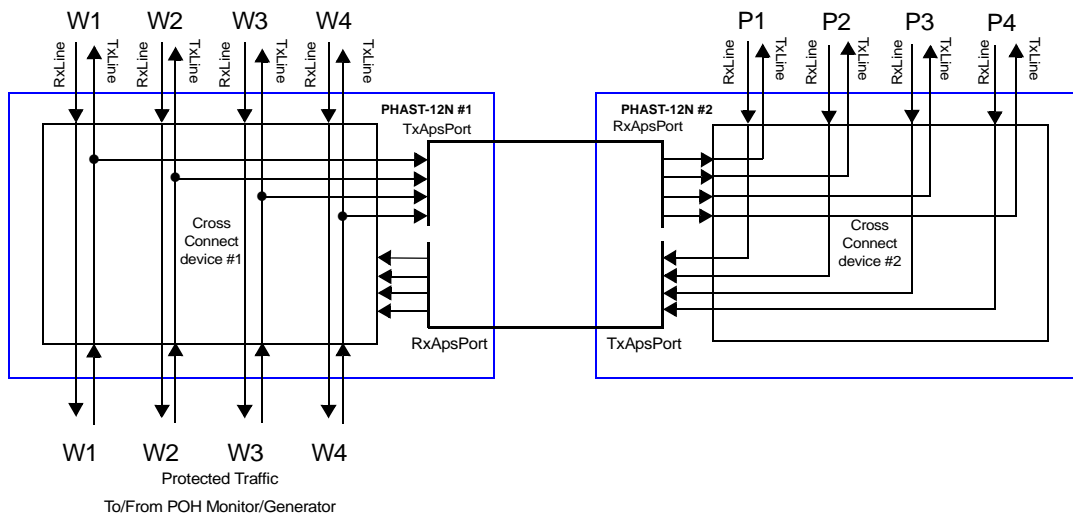

Figure 32. STM-1/OC-3, 1+1 APS Idle State
Figure 32 shows an example of a 1+1 APS protection architecture in STM-1/OC-3 mode using two PHAST-12N devices. One PHAST-12N device handles up to four Worker lines (W) while a second PHAST-12N handles the associated Protection lines (P). Both devices are interconnected through the APS Port interface, using one fourth of the bandwidth per STM-1/OC-3 protection group. The cross connects of both devices setup permanent bridges from the Worker Transmit lines to their Protection Transmit lines over one of the APS Port interfaces. The received protection payload of the four lines is available on the other APS Port interface.